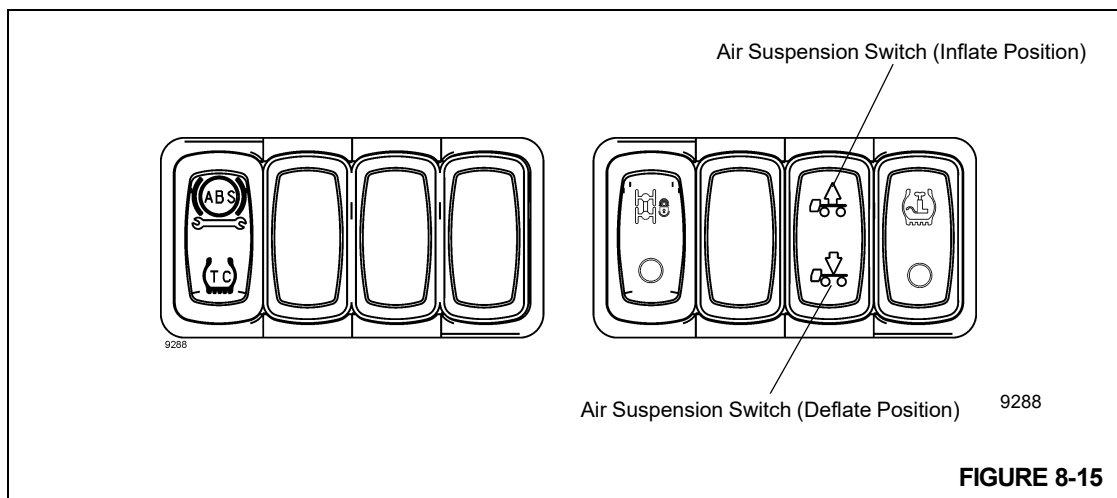

FIGURE 8-15
2. Push air suspension switch (Figure 8-15) in the carrier cab to deflate position to deflate the air suspension bags. The amber suspension deflate indicator light should illuminate when the pressure in all air bags drops below 28 ± 14 kPa (4 ± 2 psi).